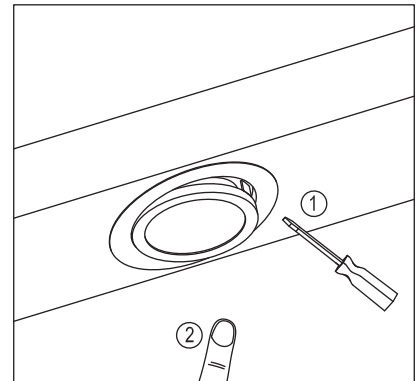

Fig 3
4. Put the lit lens back on base using a flat head screwdriver. (Fig 3)